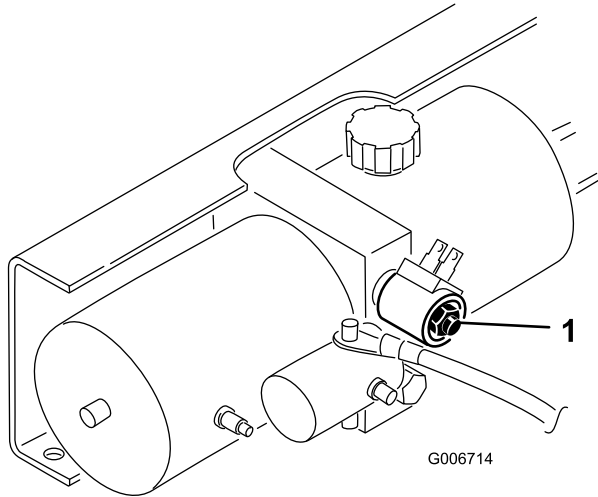

Figure 24
2. Push in red knob on solenoid valve (Figure 24) and rotate 180 degrees counter-clockwise to activate emergency lowering valve.